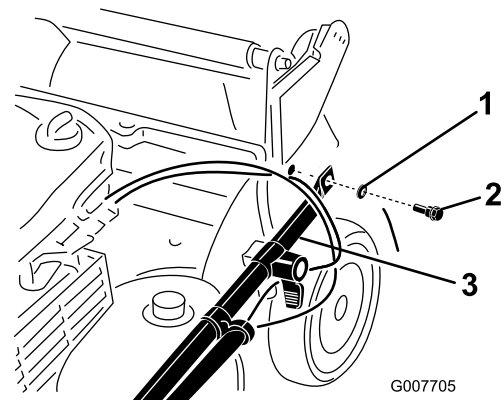

Figure 3
2. Attach the handle ends to the mower housing with 2 washers and 2 handle bolts (Figure 3), **but do not tighten the handle bolts**.
Important: Route the cables to the *outside* of the handle (Figure 3).